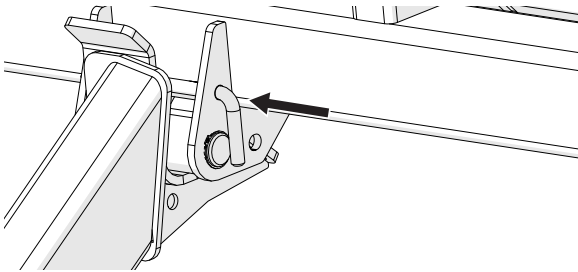

Figure 5. Removing Wing Transport Pin
2. Remove wing transport pins from wings and place in holder holes. See **Figure 5**.